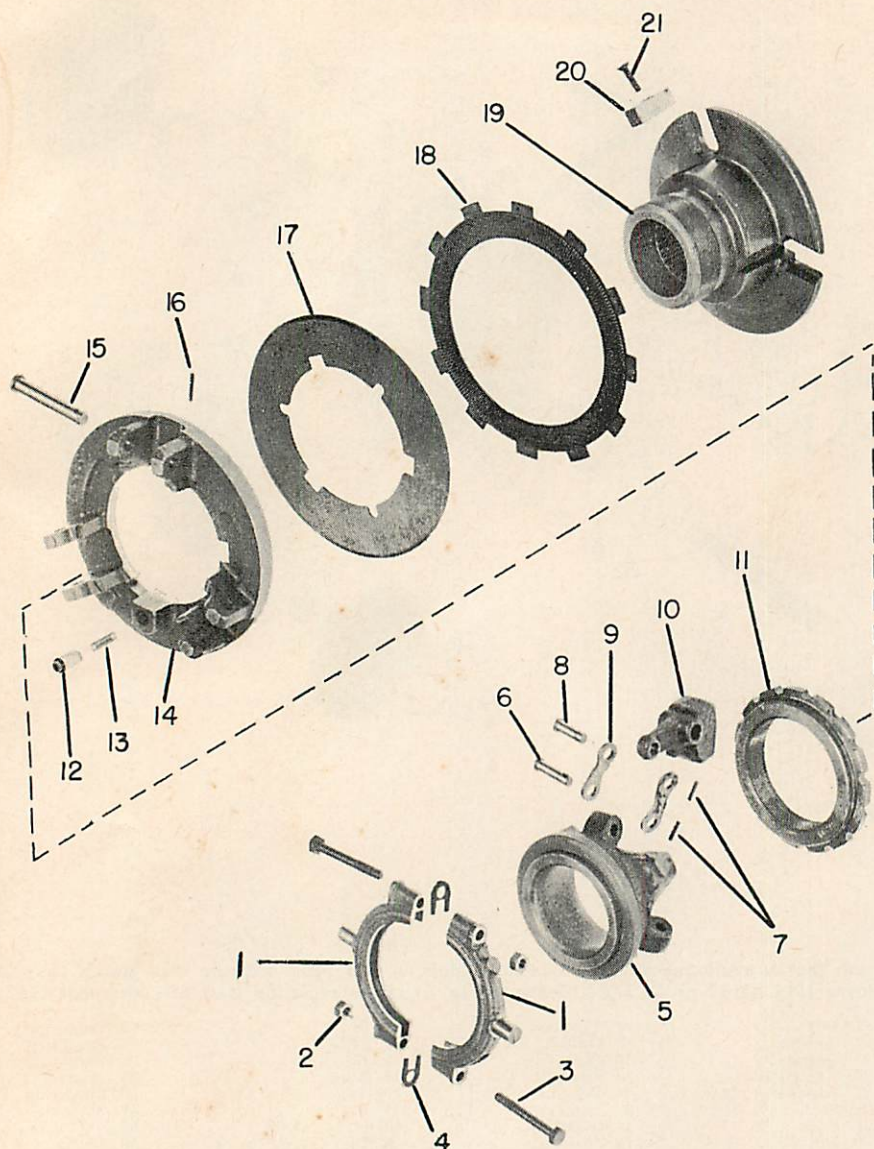

Fig. O139 — Exploded view of the multiple disc clutch assembly used in dual speed pto. Refer to Fig. O138 for complete pto assembly.
Fig. O138 — Exploded view of dual speed pto unit that is available on Series 1650 models. A wet type multiple disc clutch (51) is used; over center linkage is actuated by hand lever (Fig. O137 or O137A). Refer to Fig. O139 for exploded view of clutch unit (51).